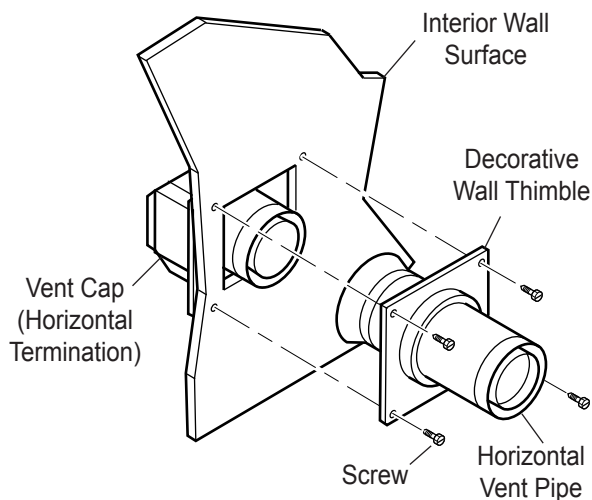

Figure 16 - Connecting Vent Cap with Horizontal Vent Pipe
5. Slide the wall thimble over the vent pipe before connecting the horizontal run to the vent cap. See Figure 16.
7. Slide the wall thimble against the interior wall surface and attach with screws. See Figure 16.